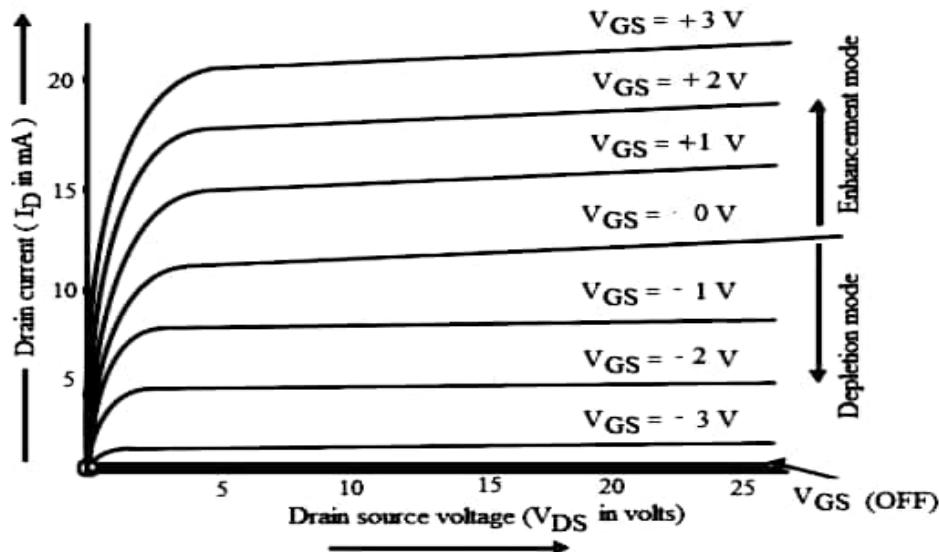

Figure 3.15 Drain characteristics of DE-MOSFET
3.10.1 Drain characteristics of depletion type MOSFET: Figure 3.15 shows a set of drain characteristics for the N-channel DE-MOSFET. If we compare these curve with JFET drain characteristics curve we find that they are similar in nature except that DE- MOSFET can operate for both negative and positive gate voltages unlike JFET which operates only for negative gate voltage,